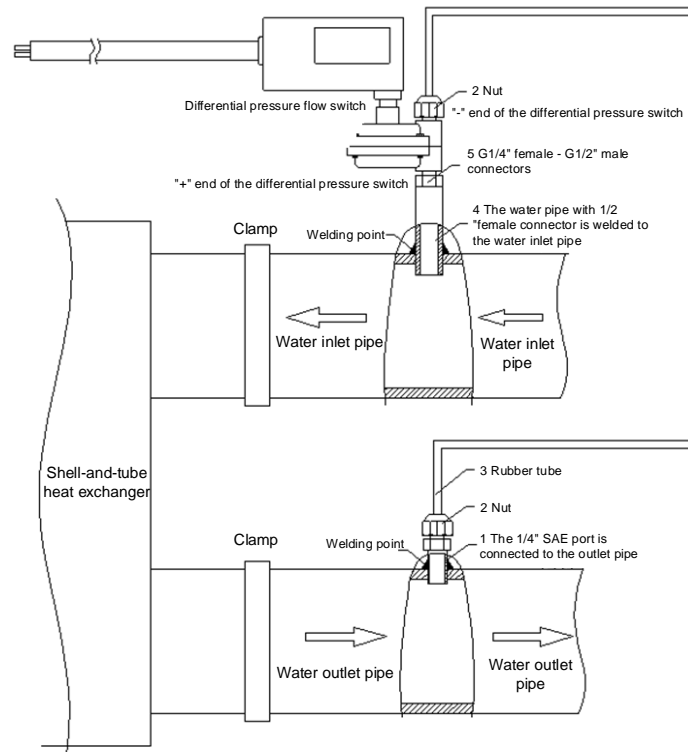

Figure 5 Installation diagram of differential pressure flow switch of shell and tube heat exchanger
to Figure 5
6. Apply rubber insulation materials on the copper shell of the water differential flow switch to avoid condensate water. For the entire installation procedures, refer to Figure 5.